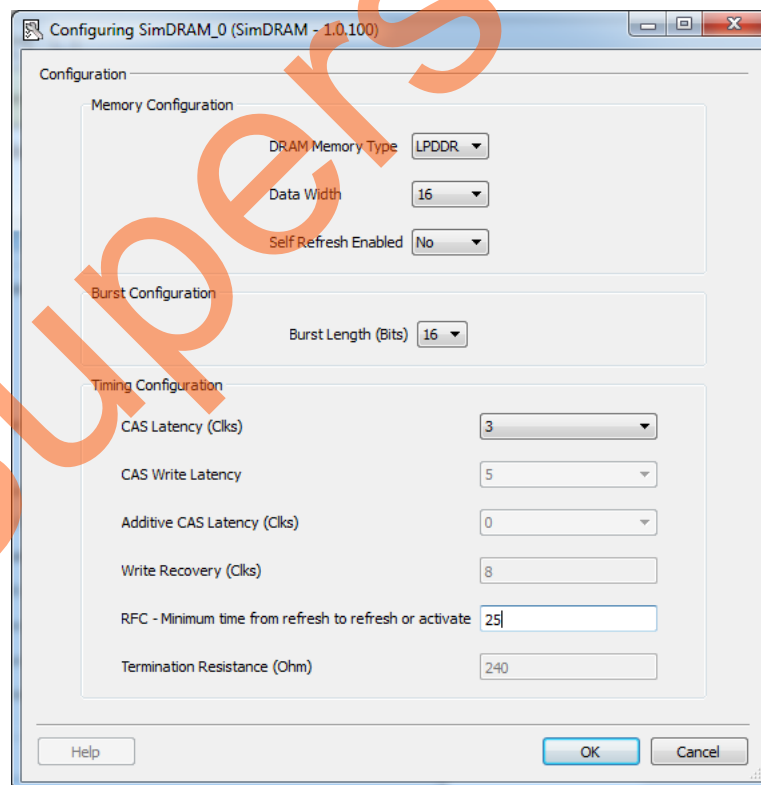

Figure 23 • Configuring SimDRAM
- Enter the Generic DDR Memory Simulation model configuration details as shown in Figure 23. The example design uses one instance of SimDRAM (VIP model) with the device width size of sixteen.